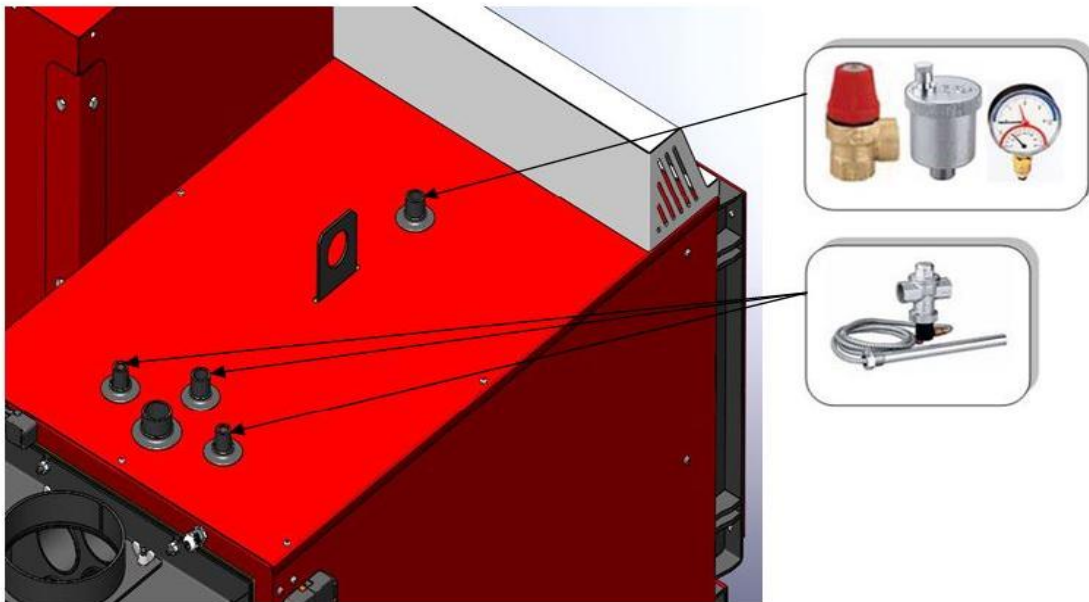

Figure 7. Installation of safety elements
- Place the installation is shown in the Assembly diagram of boiler onto the installation in **Figure 7**. The boiler is supplied with a copper coil so it is necessary to use the over temperature relief valve from group of thermal safety values with trhe exchanger, as shown in **Figure 7**. Cold sanitary water is brought to the over temperature relief valve from group of thermal safety values. When the over temperature relief valve from group of thermal safety values -probe has the information that the temperature is over 95 degrees the over temperature relief valve from group of thermal safety values is opened and water flows through copper coil. After some time the temperature of water in boiler returns to its normal state.